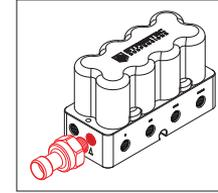

Abb. 16: Valve block
1. Mounting directly in the side connection of the valve block (Fig. 16)